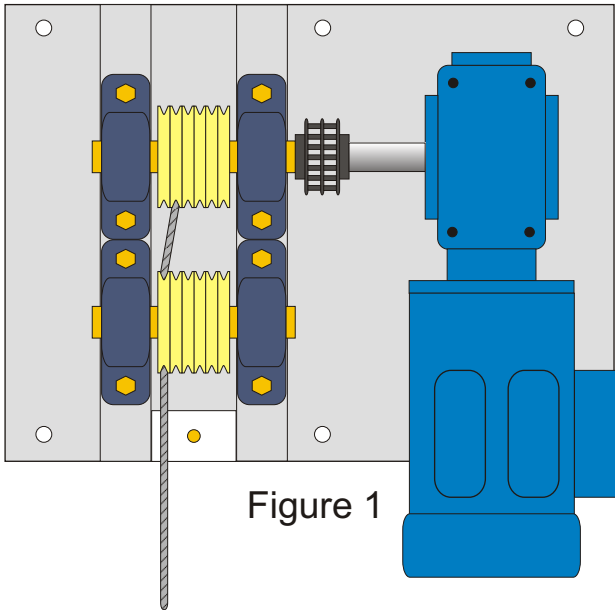
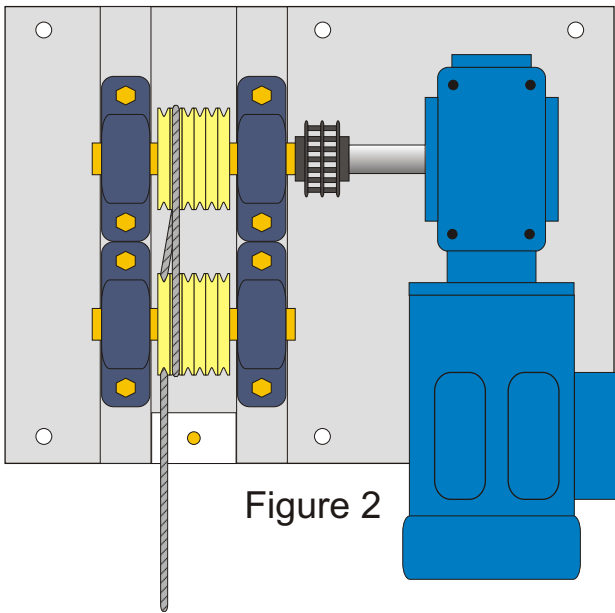

Figure 1
Figure 2
3. Now refer to diagram #5. Facing the winch (your back to the lake), thread the cable under the far left groove of the front sheave (figure 1). Then under the second groove of the rear sheave, over the top to the second groove of the front sheave (figure 2), under to the third groove of the rear sheave, and so on until all the grooves are filled (figure 3). Notice that the cable is straight across the top of the sheaves and angled across the bottom.
6. You can determine if the cable is tight enough by using this test: Grasp the cable a few feet in front of the carriage and pull up. If the carriage moves more than two (2) inches, you need to tighten it further.